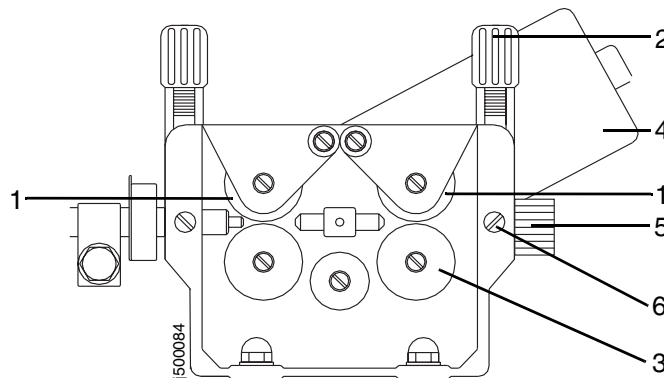

Figure 8 Wire feed unit.
Wire is fed using two pairs of feed rollers, see Figure 8, which are linked to each other. The power from the motor is transferred to the rollers via a pinion on the motor shaft. The two upper rollers (1) are spring-loaded.